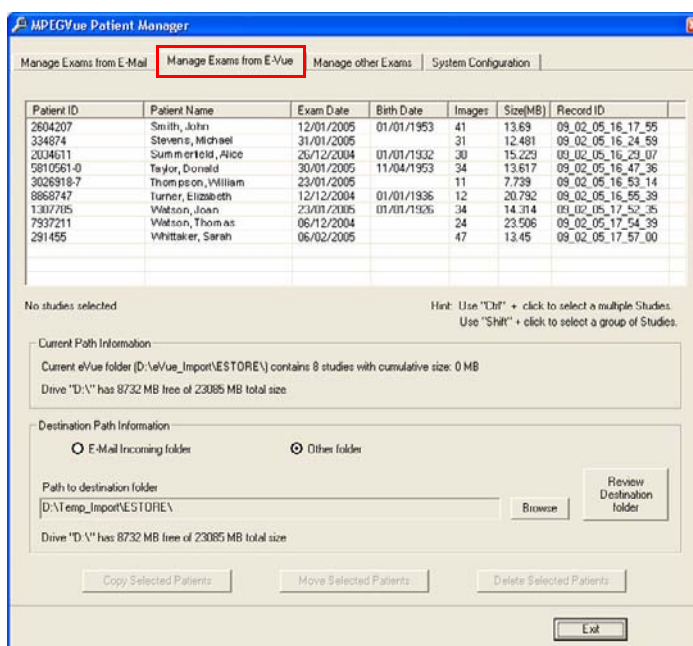

Figure 3-138 MPEGVue Patient Manager Window - Manage Exams from E-VueTab
- a.) Make sure the Manage Exams from Evue tab is activated as shown in Figure 3-138.